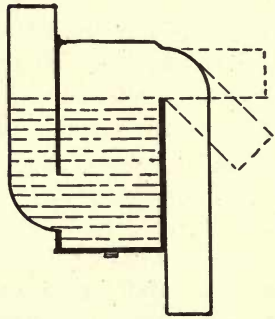

FIG. 63.—Clean-sweep trap.
*Clean Sweep Trap*, Fig. 63. Some clean sweep traps are dependent upon an inside wall for their seals. They are made of  $\frac{1}{2}$ S,  $\frac{3}{4}$ S, and full S.